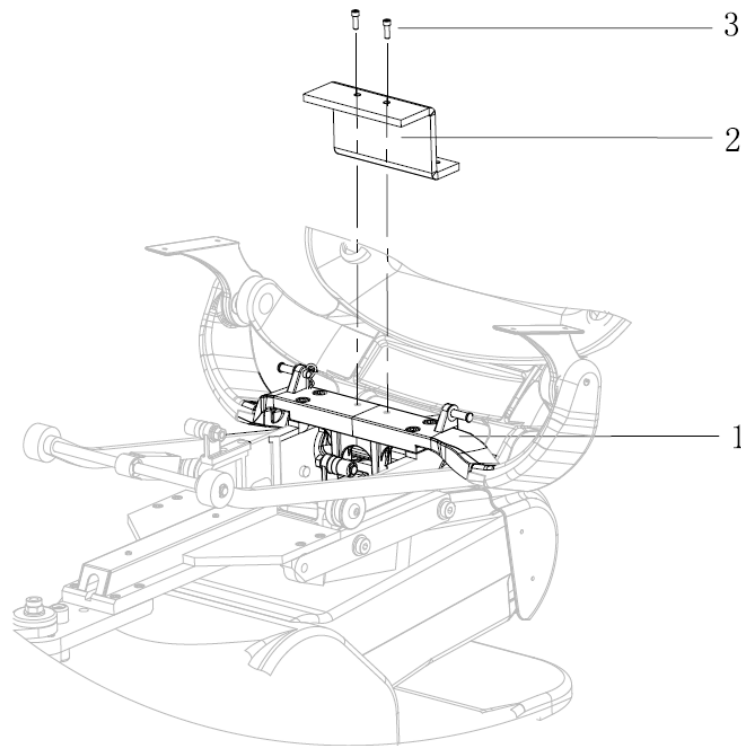

Figure 12. Assistant's System Rear Pivot Chair Adapter A Installation
1. Place the Rear Pivot Chair Adapter A. ② on top of the dental chair seat yoke casting ①.
2. Align the two screw holes on the adapter with the yoke casting ①.
3. Install the Rear Pivot Chair Adapter A to the dental chair with two button head screws ③ as shown on Figure 12.